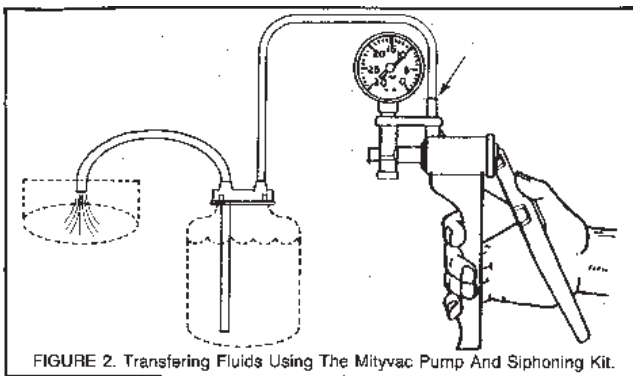

FIGURE 2. Transferring Fluids Using The Mityvac Pump And Siphoning Kit.
2. Connect the piece of 1/4" inside diameter (ID) tubing between lid outlet marked "PUMP" and the pressure port of the Mityvac® pump as shown (Figure 2).